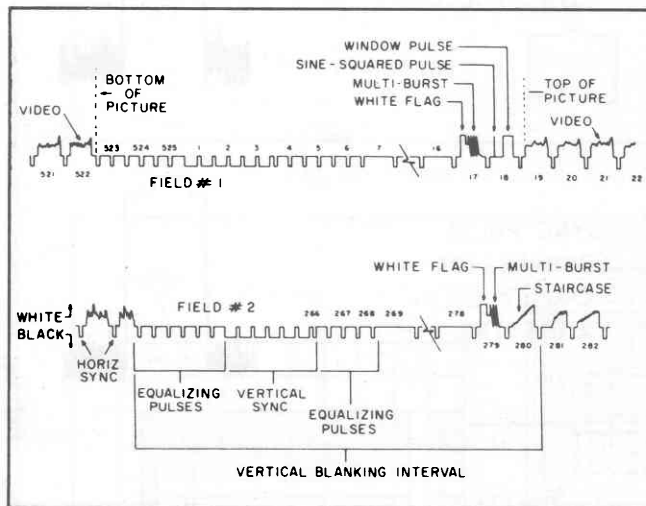

Fig. 21. Vertical blanking interval, showing VITS information.
8. Set the SWEEP TIME/CM control to the .1mS/CM position. This expands the display by increasing the sweep speed. The VITS information will appear toward the right hand portion of the expanded waveform displays. The waveform information on each trace may appear as shown in the drawing of Fig. 21. Because there is no provision for synchronizing the oscilloscope display to either of the two fields which comprise a complete vertical frame, it cannot be predicted which field display will appear on the Channel A or Channel B display.